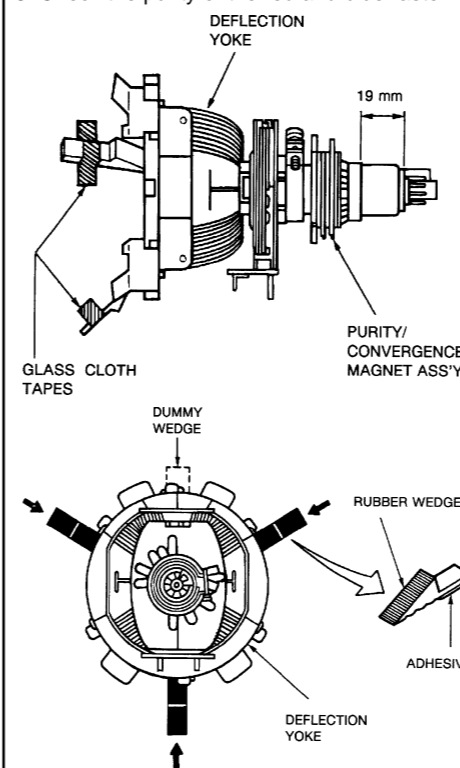

Fig. 1
Note: The PURITY/CONVERGENCE MAGNET assembly and rubber wedges need mechanical positioning. Refer to figure 1.
- Temporarily put a wedge as shown in figure 1. (Do not remove cover paper on adhesive part of the wedge.)
- Stick three adhesive tapes on wedges as shown in figure 1.